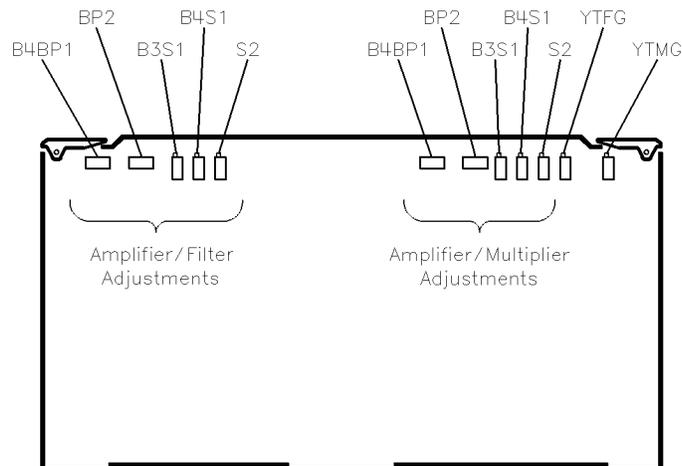

Figure 3-20. A12 Assembly Potentiometer Locations
31. Set A12R108 B3S1 fully clockwise (see Figure 3-20).
34. Adjust A12R108 B3S1 (see Figure 3-20) for maximum power over the rest of the sweep (3 to 10 divisions).